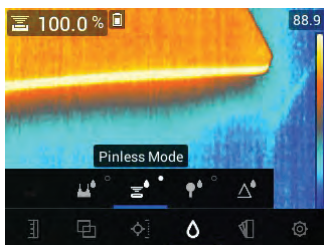

Figure 7.10 Pinless mode selection
- Select the pinless mode from the menu system (*Moisture mode/Pinless*); see **Figure 7-10**.